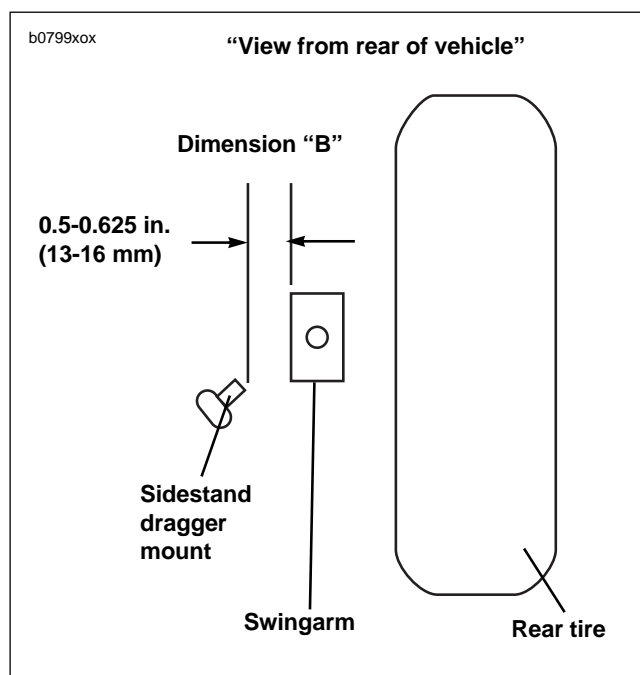

Figure 5. Dimension "B" Measurement
- See Figures 5 and 6. Dimension "B" is determined by measuring the distance perpendicular to the left outside surface of the swingarm to the sidestand dragger mount.